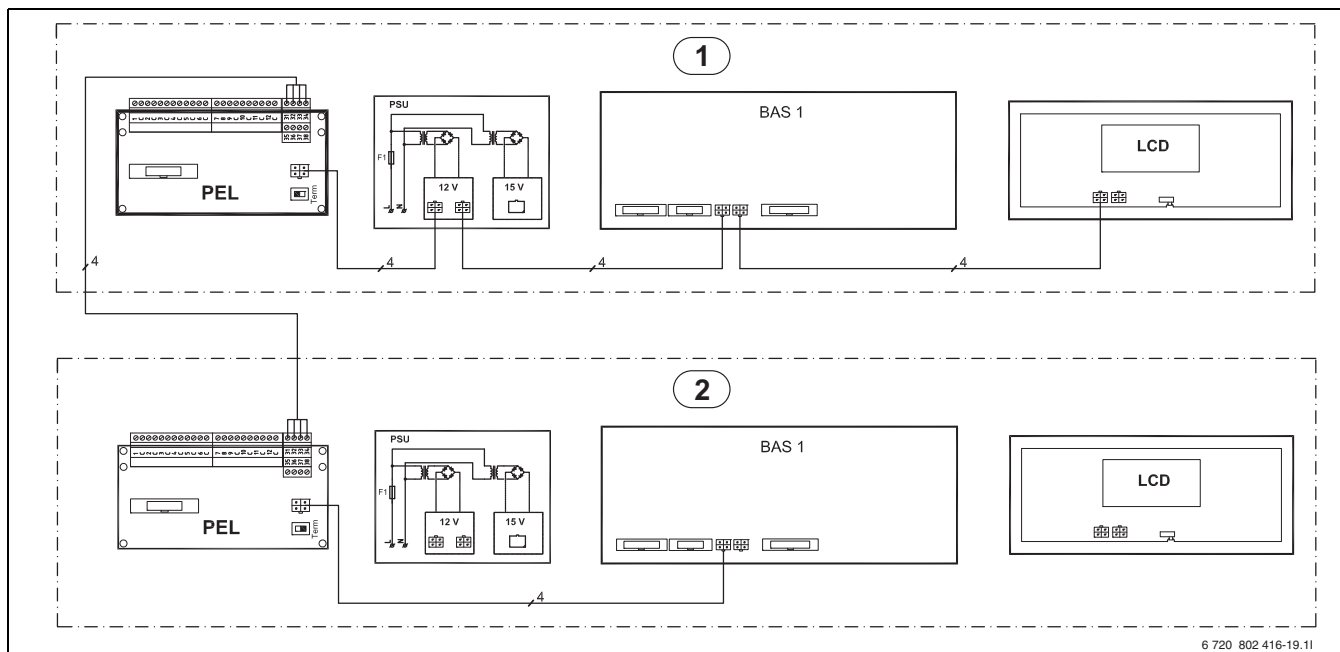

Fig. 40 CAN-BUS overview with two heat pumps
NOTICE: PSU and LCD (→ Figure 40) in heat pump 2 are factory connected, these must be disconnected and are not used in cascade connection
4. Re-connect CAN-BUS with existing CAN-BUS cabling in heat pump 2 (→ Figure 40).